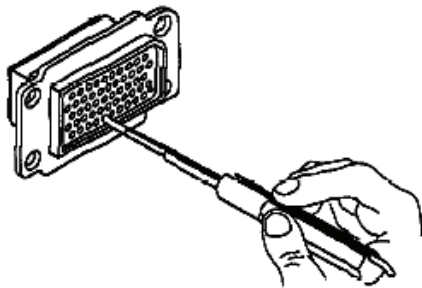

Figure 14. Removal Tool on Wire
c. Slide removal tool along wire at a right angle to connector insert face and align with contact cavity (Figure 14).